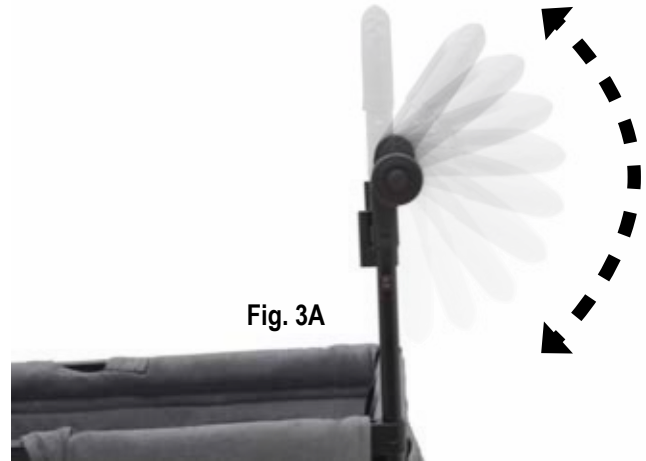

Fig. 3A
- To release front wheel: Press the release button located on the side of the wheel housing and pull down on wheel to release (Fig. 3A).
- With both buttons pressed, rotate the handle up or down to desired position (Fig. 3A).